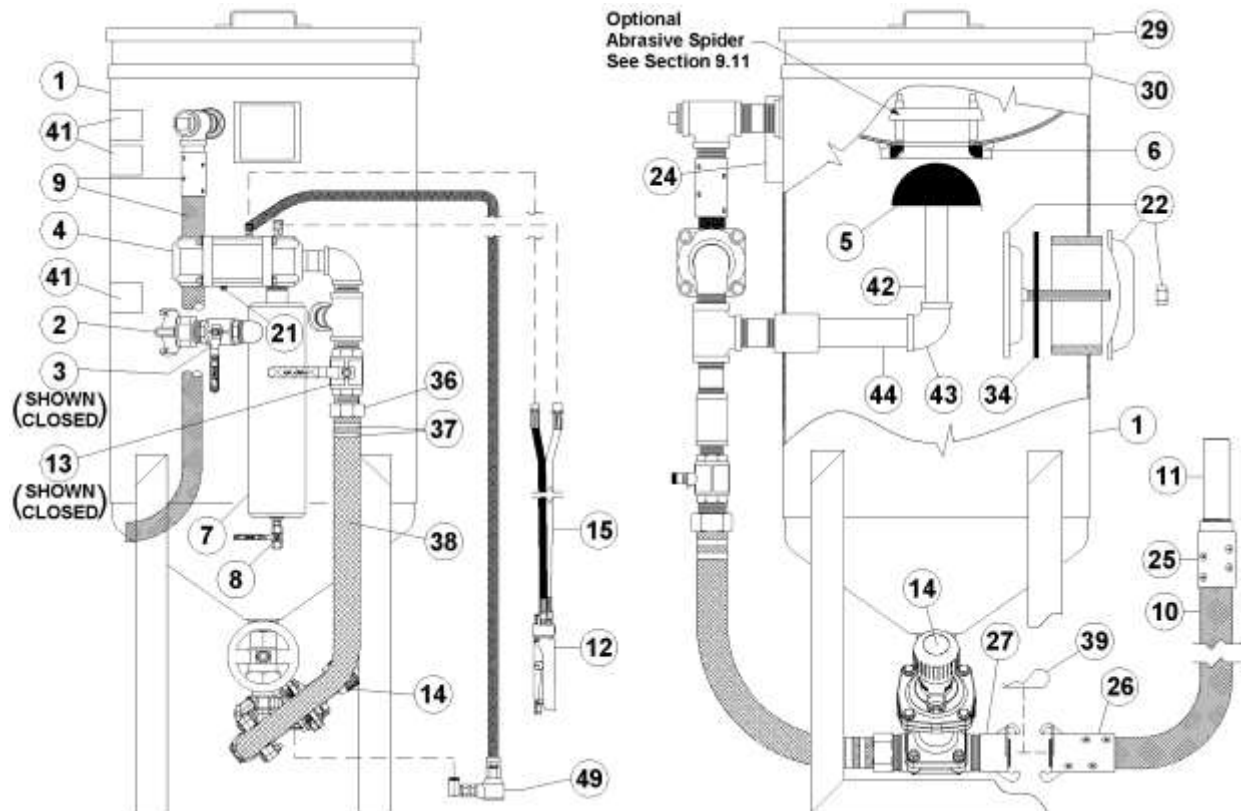

Figure 6.3 – Tera Valve™ /Combo Abrasive Blaster with pneumatic blast controls
- 6.3.3. Close the air inlet ball valve (#3) to disable the blaster and the deadman blast control. The ball valve is closed when the handle is fully turned to the position shown in Figure 6.3 (handle perpendicular to body). The handle tab will bottom against the ball valve body in the closed position. **Note:** A faulty ball valve may allow air flow even in the closed position. Confirm air flow is stopped by opening the drain ball valve (#8) or by loosening the twinline connection (#18) to check for air flow. Replace faulty ball valves.